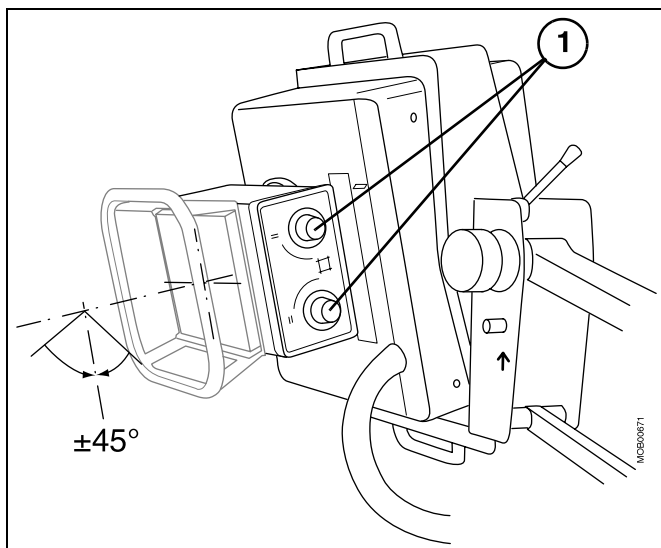

Fig. 4:
- Check whether the double-slot diaphragm can easily be rotated $\pm 45^\circ$ (Fig. 4 / p. 28).
- Check the format setting (pairs of collimator leaves) for ease of movement and uniformity (by sliding the diaphragm adjusting levers (1//Fig. 4 / p. 28)).